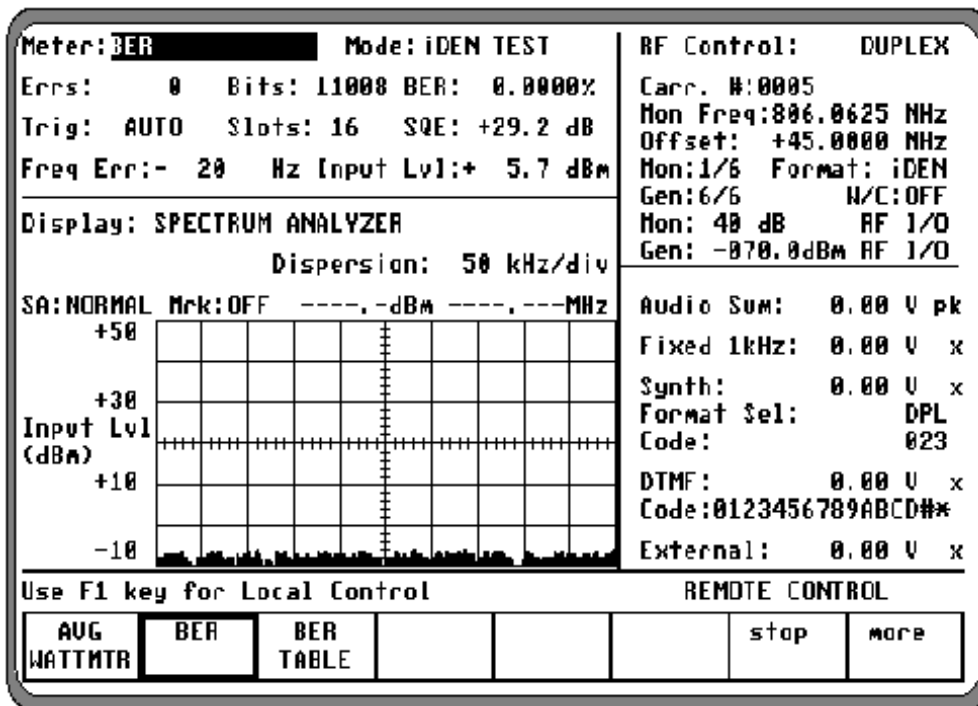

Figure 7-3. Mobile Radio (BER Test Mode) BER Meter Sample
- Access the BER Meter by placing the cursor in the Display zone's "Meter:" field and pressing the **more** softkey until the **BER** softkey is presented. Press the **BER** softkey to display the BER Meter. A screen similar to figure 7-3 appears.